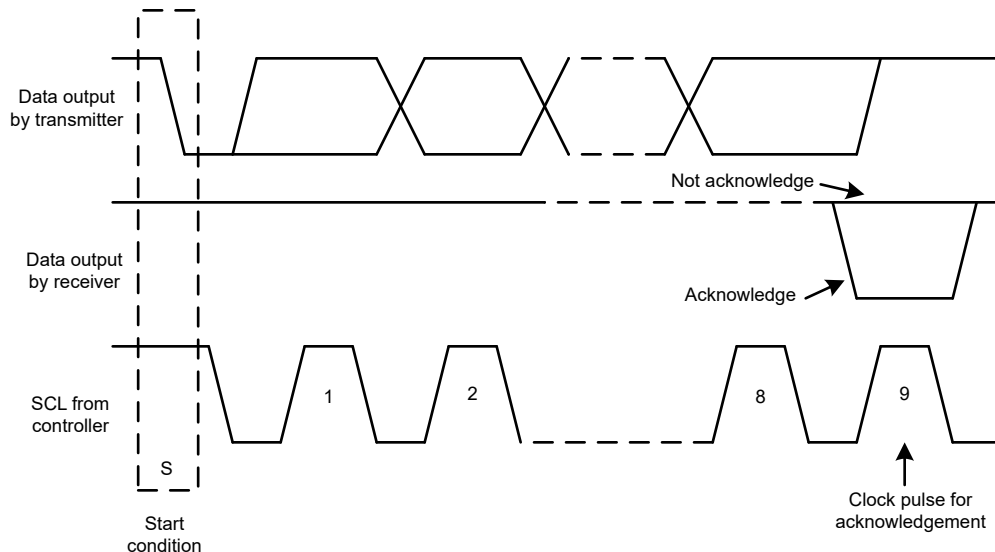
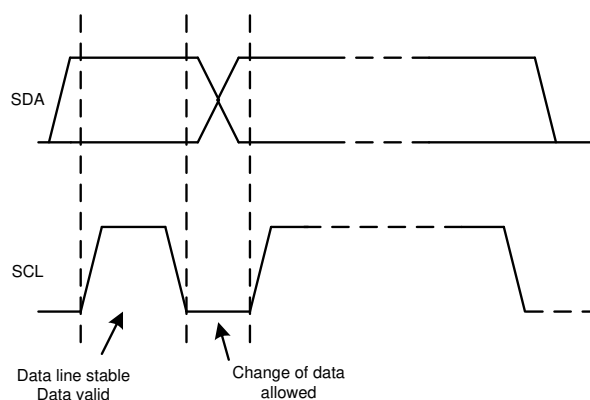

Fig 7-18. Acknowledge and Not Acknowledge on the I²C Bus
Figure 7-20. Bit Transfer on the I²C Bus
Other than specific timing signals, the I²C interface works with serial bytes. At the end of each byte, a ninth clock cycle generates and detects an acknowledge signal. An acknowledge is when the SDA line is pulled low during the high period of the ninth clock cycle. A not-acknowledge is when the SDA line is left high during the high period of the ninth clock cycle, as shown in Fig 7-18.
2. The controller then generates the SCL pulses, and transmits the 7-bit address and the read/write direction bit (R/\bar{W}) on the SDA line. During all transmissions, the controller makes sure that data are valid. A valid data condition requires the SDA line to be stable during the entire high period of the clock pulse, as shown in Figure 7-20. All devices recognize the address sent by the controller and compare the address to the respective internal fixed address. Only the target device with a matching address generates an acknowledge by pulling the SDA line low during the entire high period of the 9th SCL cycle, as shown in Figure 7-18. When the controller detects this acknowledge, the communication link with a target has been established.